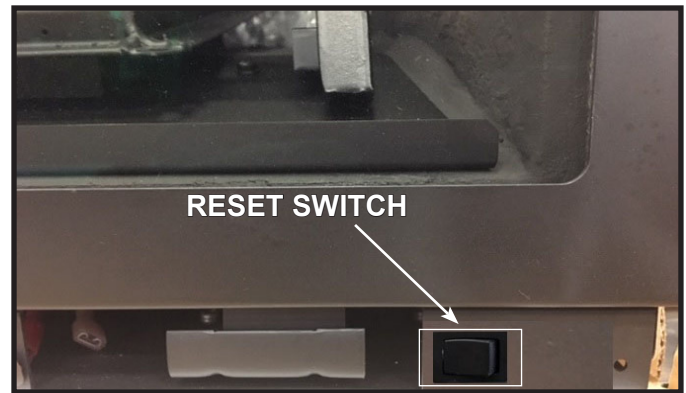

Figure 3.8 Reset Switch Location
The appliance has a reset switch located on the lower right hand side of the appliance behind the decorative front. See Figure 3.8.
- Locate reset switch inside the appliance. See Figure 3.8. Hold reset switch down for one second and release. A “beep” will signal module is reset.